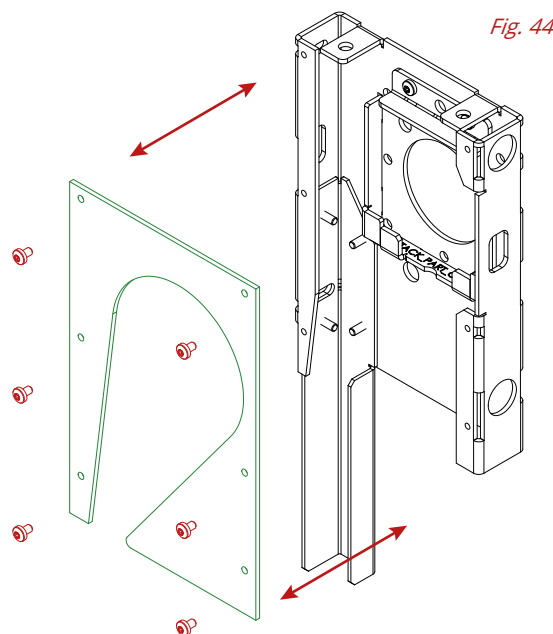

Fig. 44
**2 / REMONTER LA TÔLE GUIDE CHAÎNE À LA CONSOLE AU MOYEN DES 6 VIS ÔTÉS PRÉCÉDEMMENT (FIG.44)**